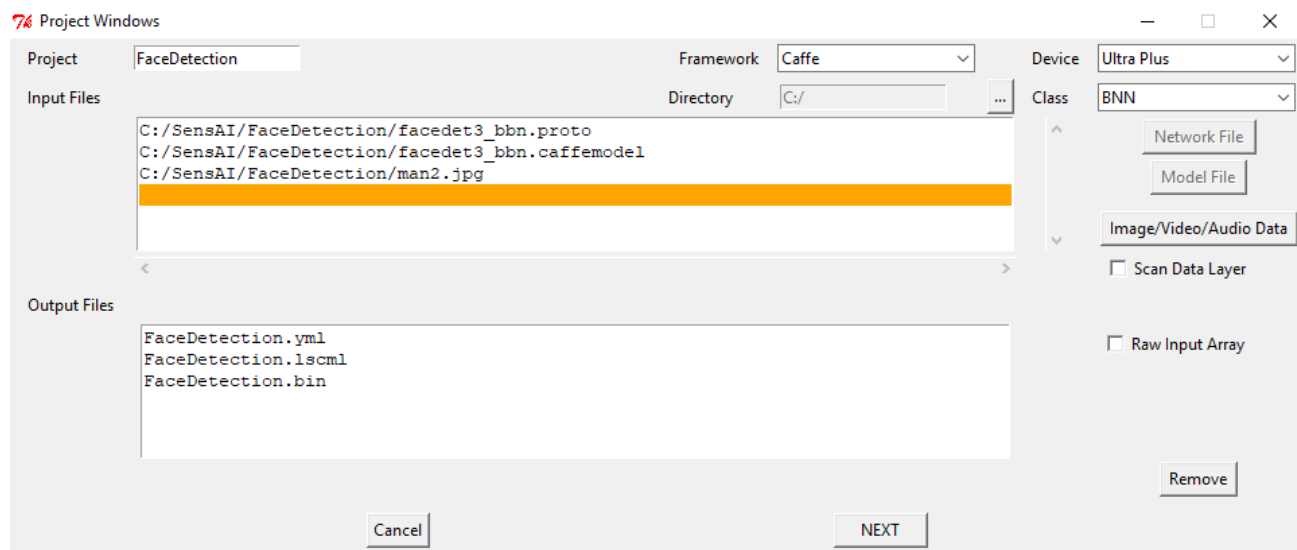

Figure 7.1 SensAI Project Settings Part 1
- Using the files located in the **NN\_Compiler\_Files** directory, create a new project in SensAI and apply the following settings as shown in Figure 7.1.